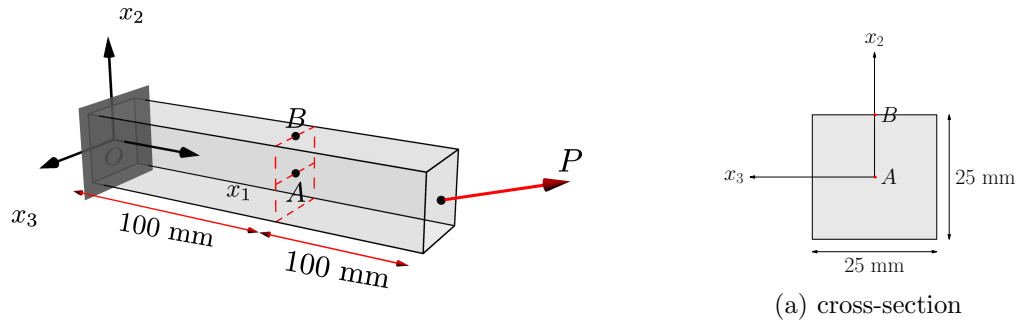

Figure 2
3. Consider the loading condition given in Fig. 2. The load $P = (100 \mathbf{e}_1 + 100 \mathbf{e}_2) \text{ N}$.